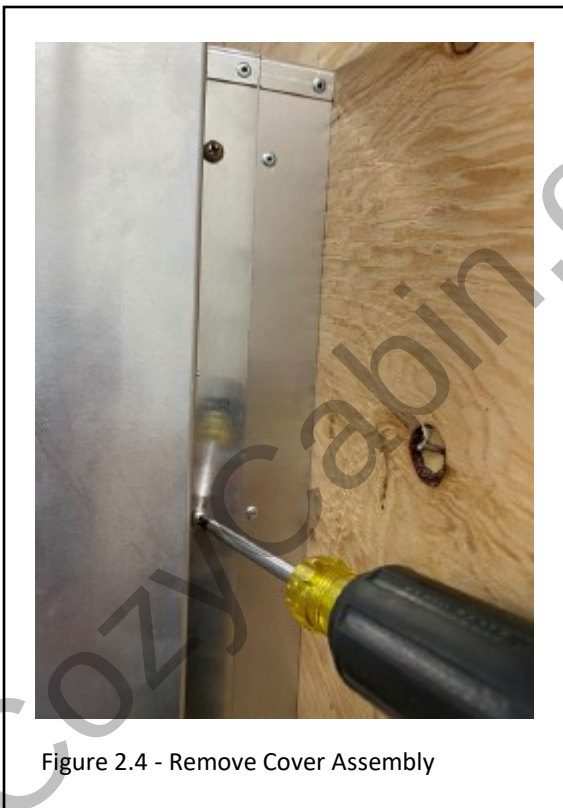

Figure 2.4 - Remove Cover Assembly
1. Remove the cover assembly (6) screws for installation of the #HTK-EXT base. See FIGURE 2.4.